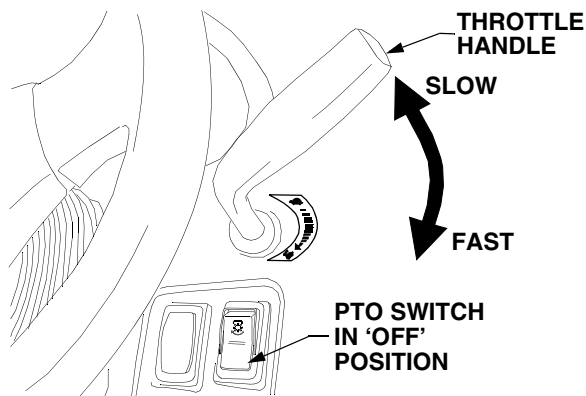

Figure 15
- Move the throttle handle to midway between the “SLOW” and “FAST” position. Refer to Figure 15.